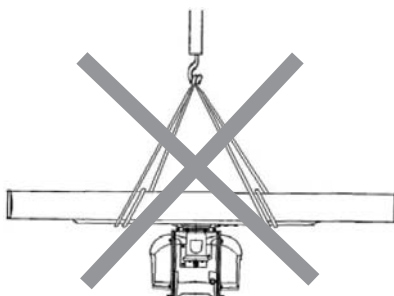

Fig.2-1 Improper way to hoist
- When hoisting the antenna by a crane, do not hoist it by attaching a belt or a rope only to the antenna's radiating section as shown in Fig.2-1.